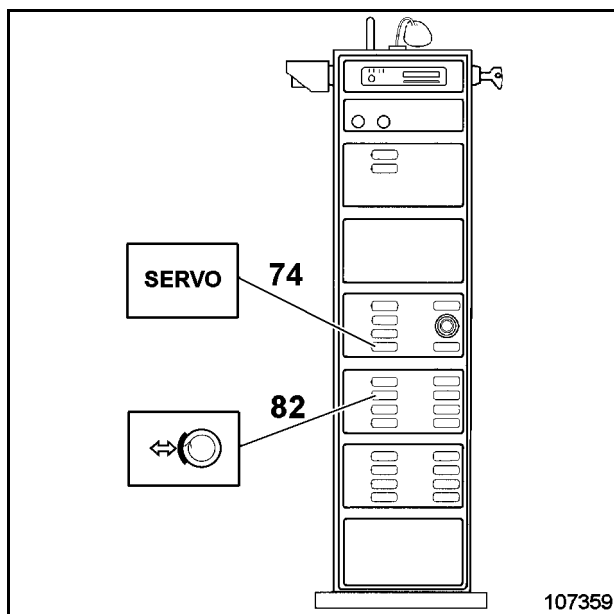
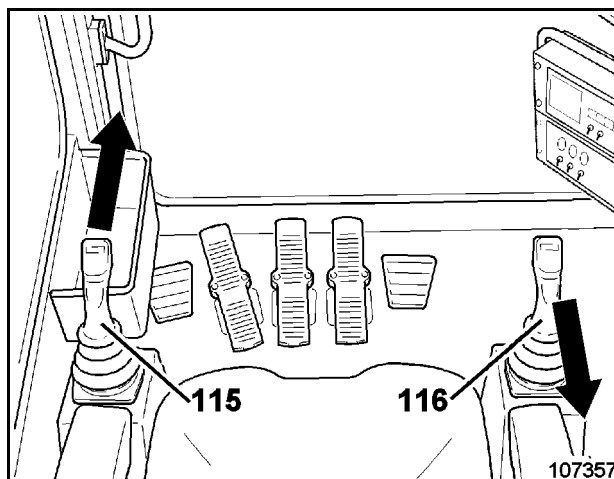

Fig. 2-93:
Fig. 2-94:
- Make sure the “SERVO” switch (74, Fig. 2-93:) is in the OFF position.
- Use the “Boom up” (116, Fig. 2-94: backwards) or “Stick out” function (115, Fig. 2-94: forwards) to engage the hydraulic pumps. This will engage the pumps without moving the attachment.
- You can now turn ON the “SERVO” switch (74, Fig. 2-93:) and move the attachment in a slow function one at a time.
- Turn “Swing brake” switch OFF (82, Fig. 2-93:).
- Turn “SERVO” switch ON (74).
- Use “Swing left” or “Swing right” function (115, Fig. 2-94:) slowly. This will heat the swing hydraulic circuit quickly.